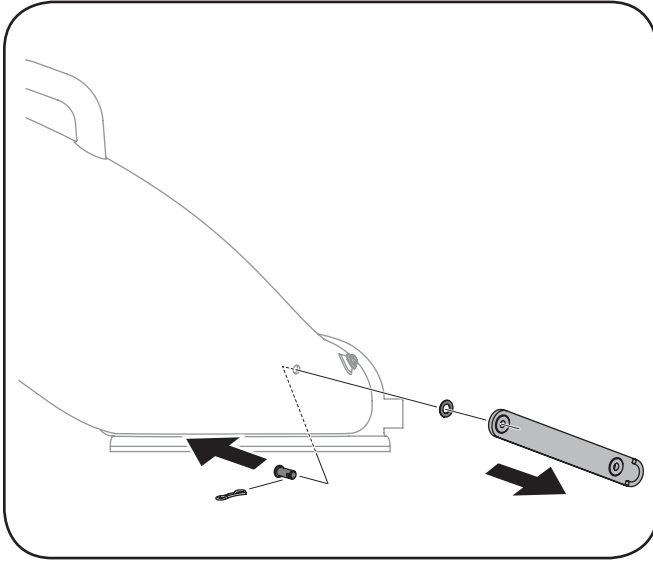

Figure 10
1. Remove and discard the clevis pin, washer, hairpin clip and chute strap. See Fig. 10.